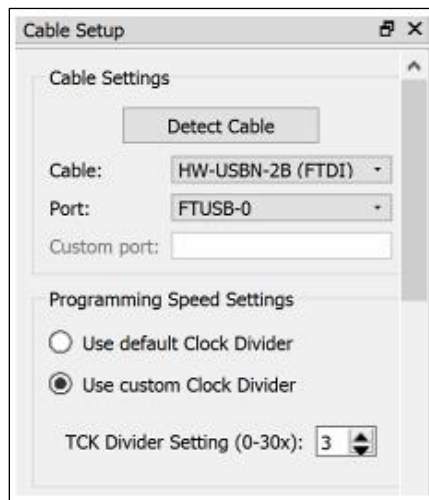

Figure 3.9. TCK Frequency Setting
- If you get verification error while dumping the .bit file, try changing the TCK frequency to be greater than 4. The TCK Divider setting option can be found from the right-click menu of the Radiant Programmer Window (Figure 3.9). Restart programming by clicking the **Program Device** icon .